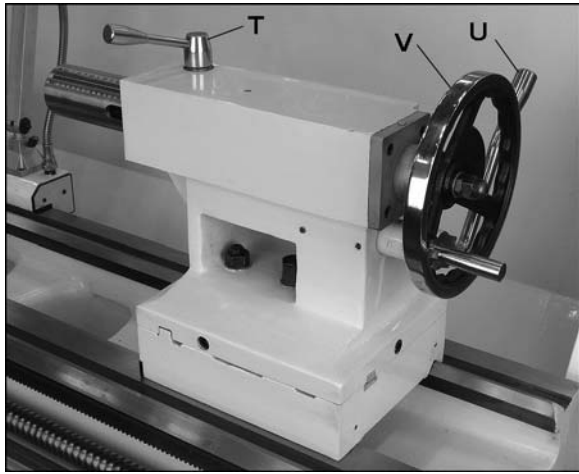

Figure 27 – Tailstock controls
16. **Tailstock Quill Clamping Lever (T, Figure 27):** Rotate clockwise to lock the sleeve. Rotate counterclockwise to unlock.
17. **Tailstock Clamping Lever (U, Figure 27):** Lift up to lock. Push down to unlock.
18. **Tailstock Quill Traverse Handwheel (V, Figure 27):** Rotate clockwise to advance the quill and counterclockwise to retract it. Fully retract it to eject a center or drill chuck.